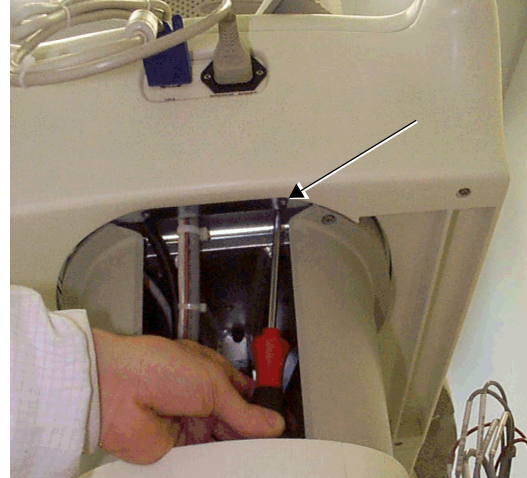

**Figure 8-18 AC and VGA Cables at Rear of Control Console**
- 9) Plug the AC cable and VGA cable in to the rear of the control console, as shown in Figure 8-18 "AC and VGA Cables at Rear of Control Console" on page 8-17.
- 3) Unplug the AC cable and VGA cable from the rear of the control console, as shown in Figure 8-18 "AC and VGA Cables at Rear of Control Console" on page 8-17.
- 7) Plug the AC cable and VGA cable to the rear of the control console, as shown in Figure 8-18 "AC and VGA Cables at Rear of Control Console" on page 8-17.